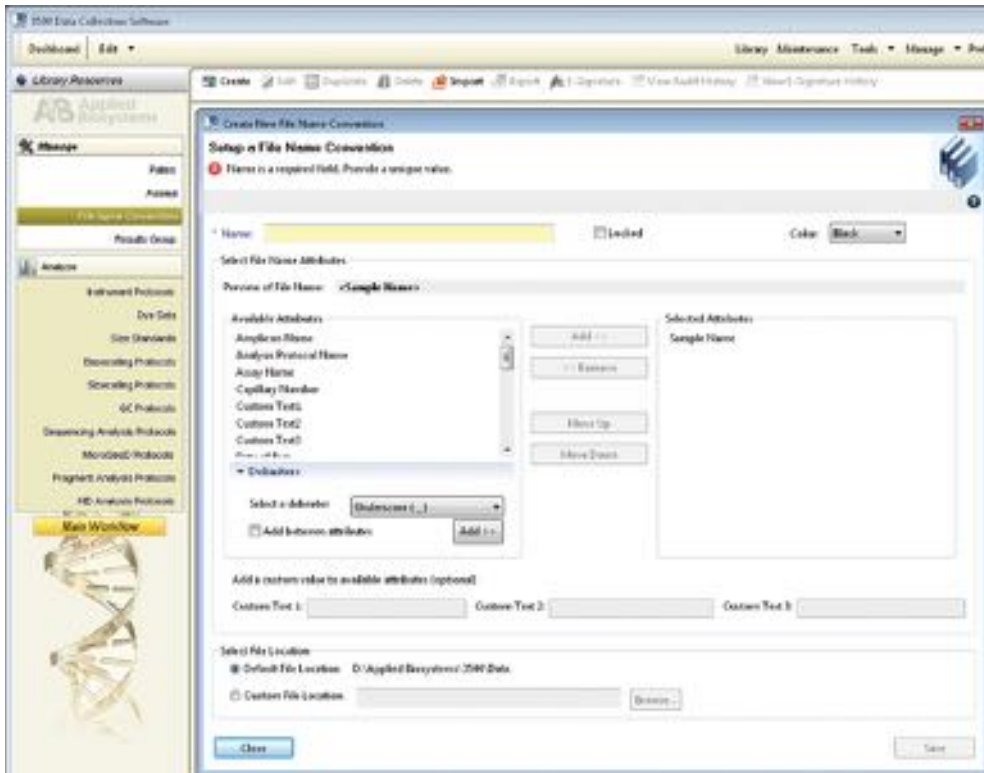

Figure 7. The Create New File Name Convention window.
6. To create a new File Name Convention (Figure 7), navigate to the Library. Select “File Name Conventions”, then select “Create”. Alternatively, a previously created File Name Convention may be used.